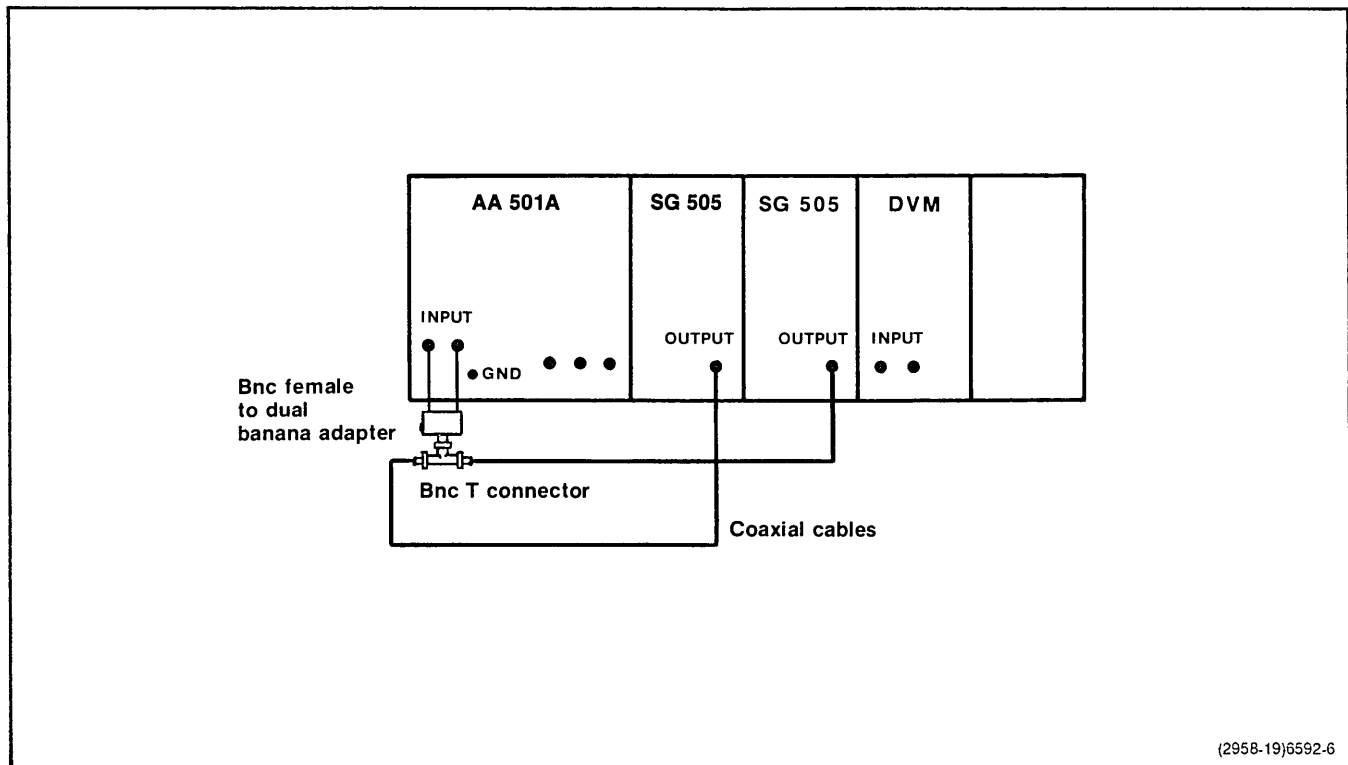

Fig. 4-5. Total harmonic SMPTE and CCIF distortion and CCIF residual IM distortion check/adjust.
- a. Connect the test equipment as shown in Fig. 4-5.